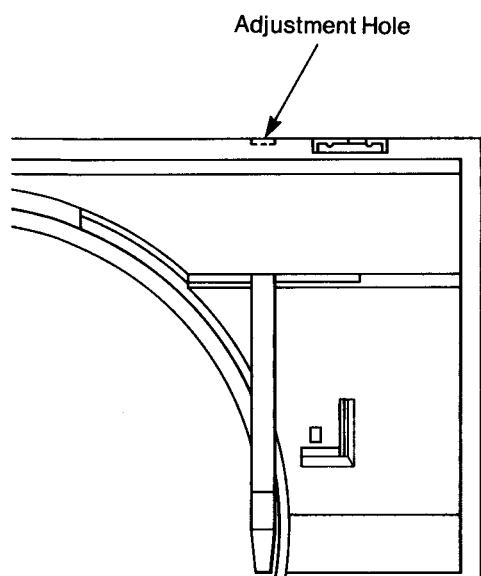

Fig. 1
3. Push \triangleleft button on the control panel and move the arm to the place as illustrated in Fig. 1.